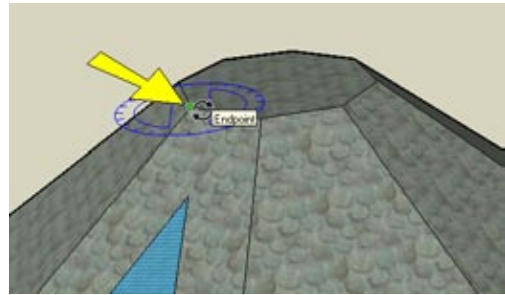

Figure 1-42
4. Activate Rotate. The first click places the center of rotation, which should be the center of the top octagonal face. Before you can find this point, you need to remind SketchUp of that inference point, so hover over one of the corner points of the top octagon (Figure 1-42).